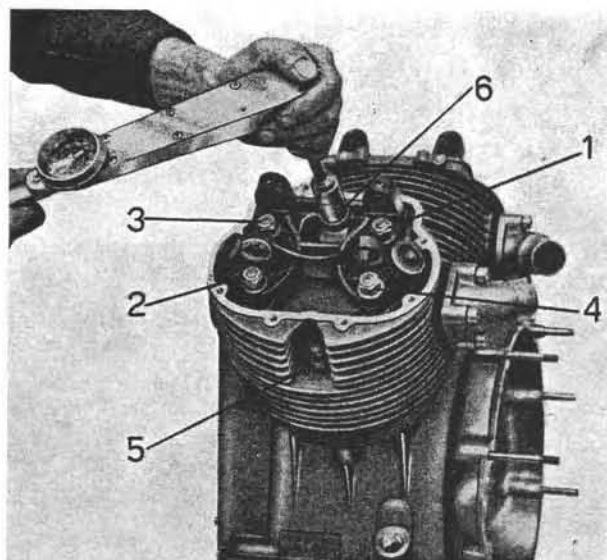

Fig. 25
- screw down nuts on long and short bolts, in crossed sequence, without tightening. Using a torque wrench rated at $\text{Kg/m. } 3.800$ (27.48 ft.lb) gradually tighten long and short bolt nuts accordingly to sequence shown in Fig. 25 (1-2-3-4-5-6).